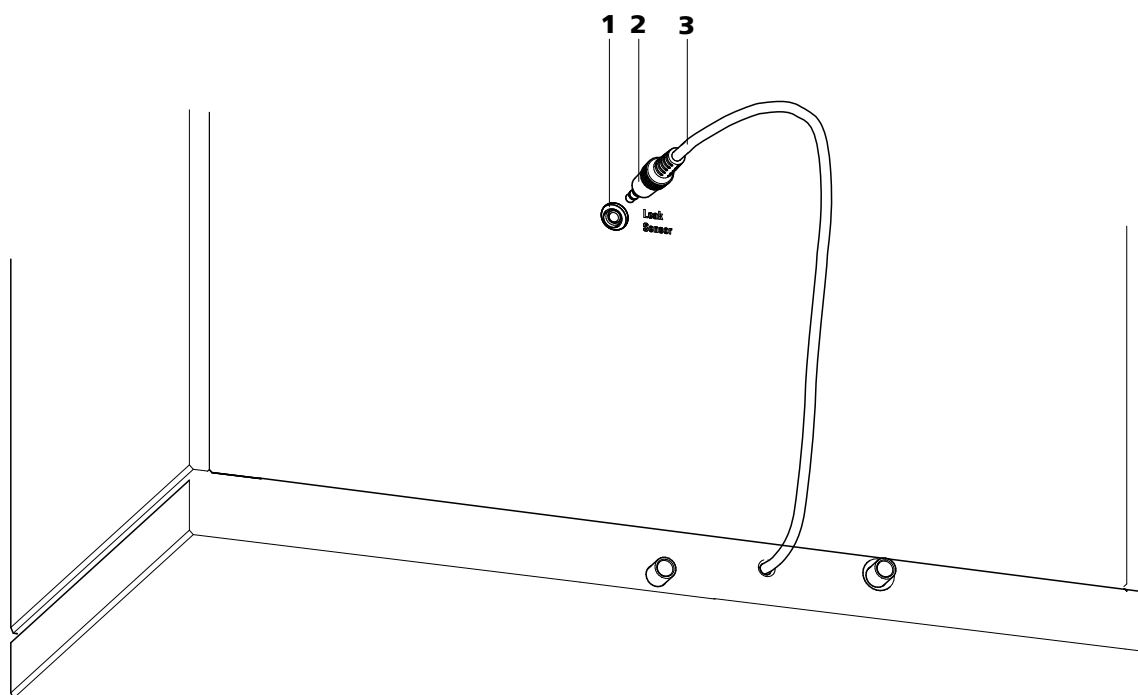

Figure 7 Connection of the leak sensor on the rear of the instrument
- 1 Plug the leak sensor connector plug (7-2) into the leak sensor connection socket (7-1) on the rear of the instrument (see figure 7, page 26).